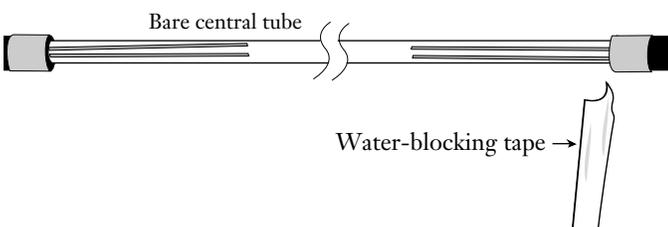

Figure 22
**6.14** Locate the longitudinal seam of the water-blocking tape which covers the central tube. Separate the tape from the tube. Use scissors to cut the tape flush at both exposed ends of the cable sheath (Figure 22).